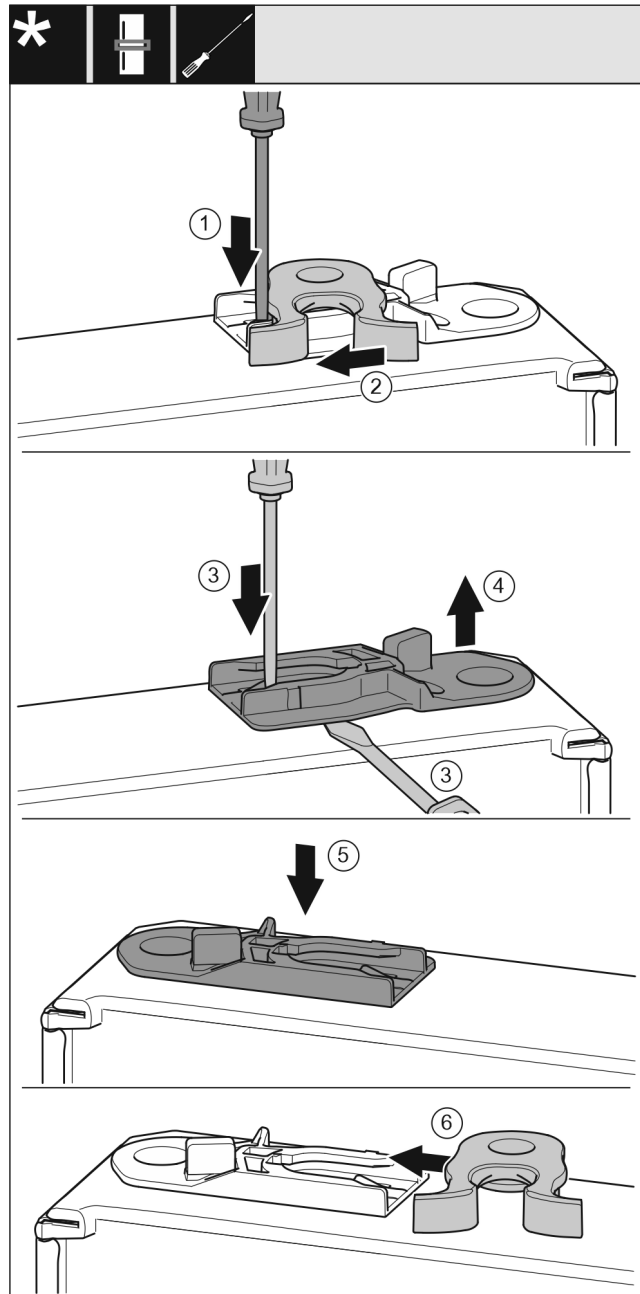

Fig. 20
- ▶ Use a slotted screwdriver to push the tab Fig. 20 (1) downwards.
- ▶ Pull the closing hook Fig. 20 (2) out of the guide.
- ▶ Pull out the guide bush Fig. 20 (3, 4): Press the tab with a flat-blade screwdriver and at the same time move the flat-blade screwdriver under the guide bush.
- ▶ Insert the guide bush Fig. 20 (5) supplied on the other side of the housing.
- ▶ Slide the closing hook Fig. 20 (6) into the guide.